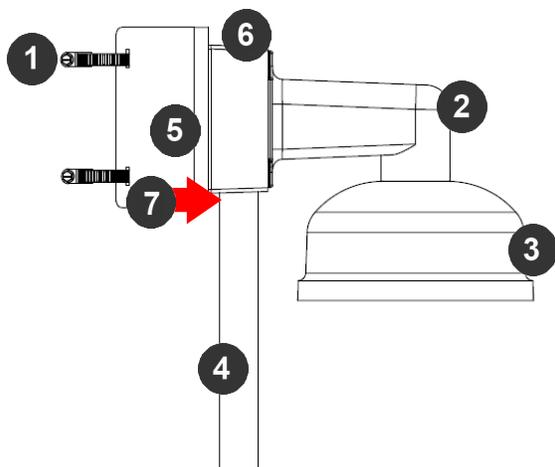

Figure 16: Attach wall mount adapter to pole mount adapter
6. Attach the Wall Mount Adapter (SV-WMJB) to the Pole Mount Adapter (AV-PMA) as shown in Figure 16.